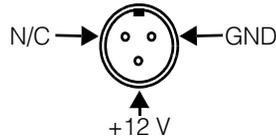

Figure 59. Pinout of Hitachi power supply connector
- The three-pin connector on Cognex cable P/N 300-0266 is a Tajimi Electronics P/N R03-JB3M. Your power supply should mate to this connector with Tajimi part number R03-P3F or R03-PB3F. Figure 59 shows the pinout for these connectors.